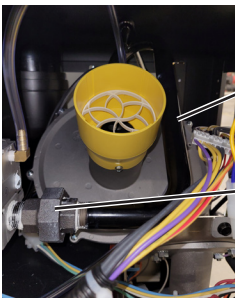
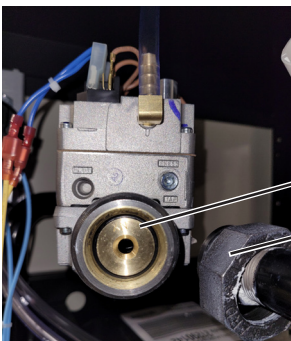

Figure 4.
Figure 5.
7. **REPLACE GAS ORIFICE:** Use channel lock pliers to loosen the gas train at the gas orifice union (near the gas valve) and replace the GAS ORIFICE with the new one provided. See Figure 5. Discard the old gas orifice. **Be sure that the O-ring is installed around the outside edge of the gas orifice, and the gas orifice is seated flush inside the union.** Tighten the union using channel lock pliers for a good seal. See Figure 4 and 5.
as shown in Figure 5.**